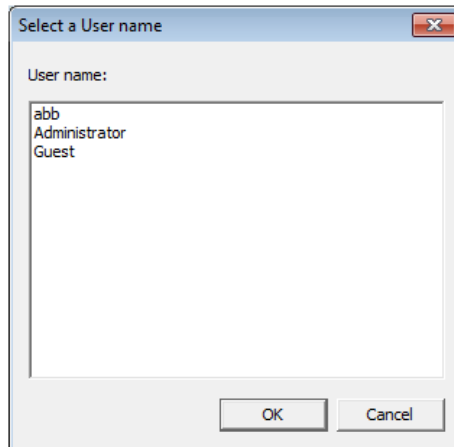

Figure 25. Select a User Name Dialog Box
- j. A Select a User Name dialog box similar to the one shown in Figure 25 appears. Select the Service User.